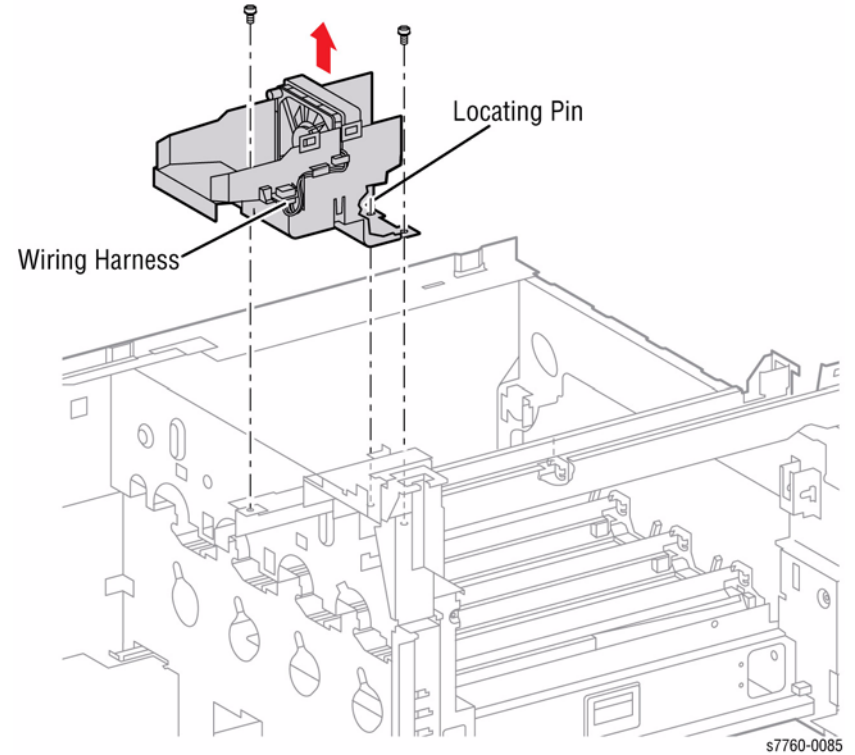

Figure 1 Removing Fuser Cooling Fan
5. Removing Fuser Cooling Fan (Figure 1).